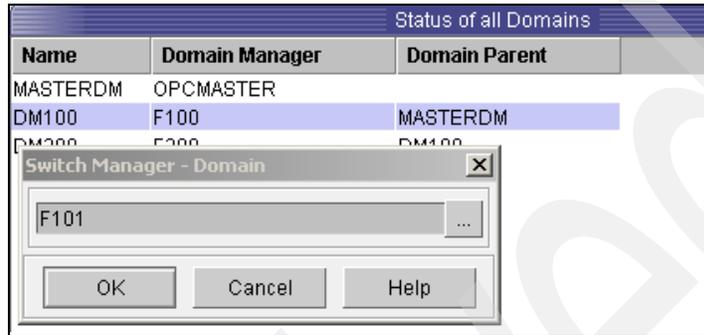

Figure 17-14 Switch Manager: Domain pop-up window with selected FTA
- Click **OK** in the Switch Manager - Domain pop-up window to initiate the switch. Note that the selected workstation (F101) appears in the pop-up window (Figure 17-14).